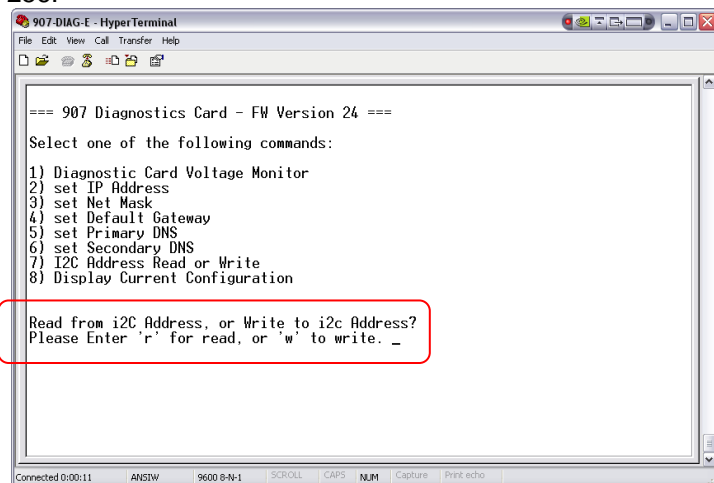
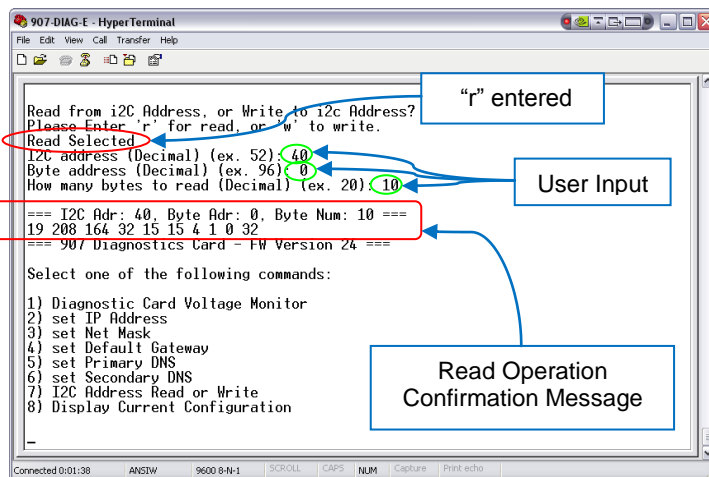

Figure 4-14: I2C Register Read Menu
Figure 4-15: Confirmation of I2C Read Operation
Figure 4-14 and Figure 4-15 show how to use the RS-232 interface to directly read I2C values from cards in the console stack. First, select menu item 7, then enter in “r” to read. When prompted, enter in the I2C address to read from, in decimal (refer to the appendix of the *907 Diagnostics Protocol Manual* for a list of available register addresses) followed by the start-byte, and the number of bytes to read. Ensure the start-byte plus the number of bytes to read does not exceed 256.